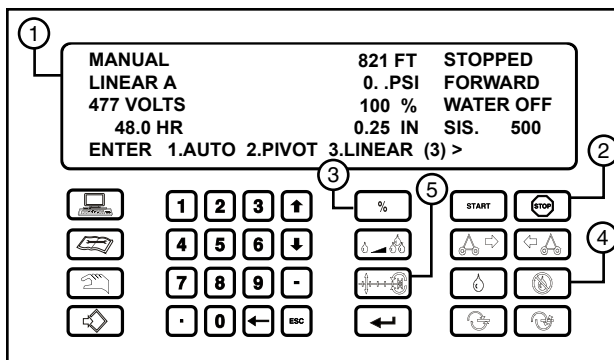

Figure 70-1 1. Control Panel Display 4. Percent Timer Key
1. Press  to Stop the machine. See Figure 70-1.
2. Press  to turn the Water OFF. See Figure 70-1.
3. Set the control panel to pivot mode. See Figure 70-1.
4. Press  to set the percent timer to the desired percentage. See Figure 70-1.